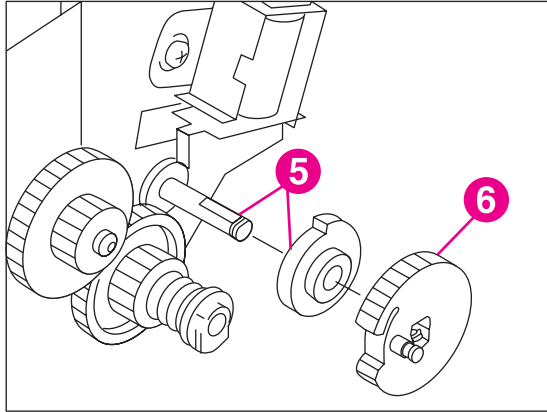

Figure 6-76 Reinstall the 500-sheet paper-feeder drive unit
- 1 When reassembling the drive unit, position the cam (callout 5) on the shaft. See Figure 6-76 Reinstall the 500-sheet paper-feeder drive unit.